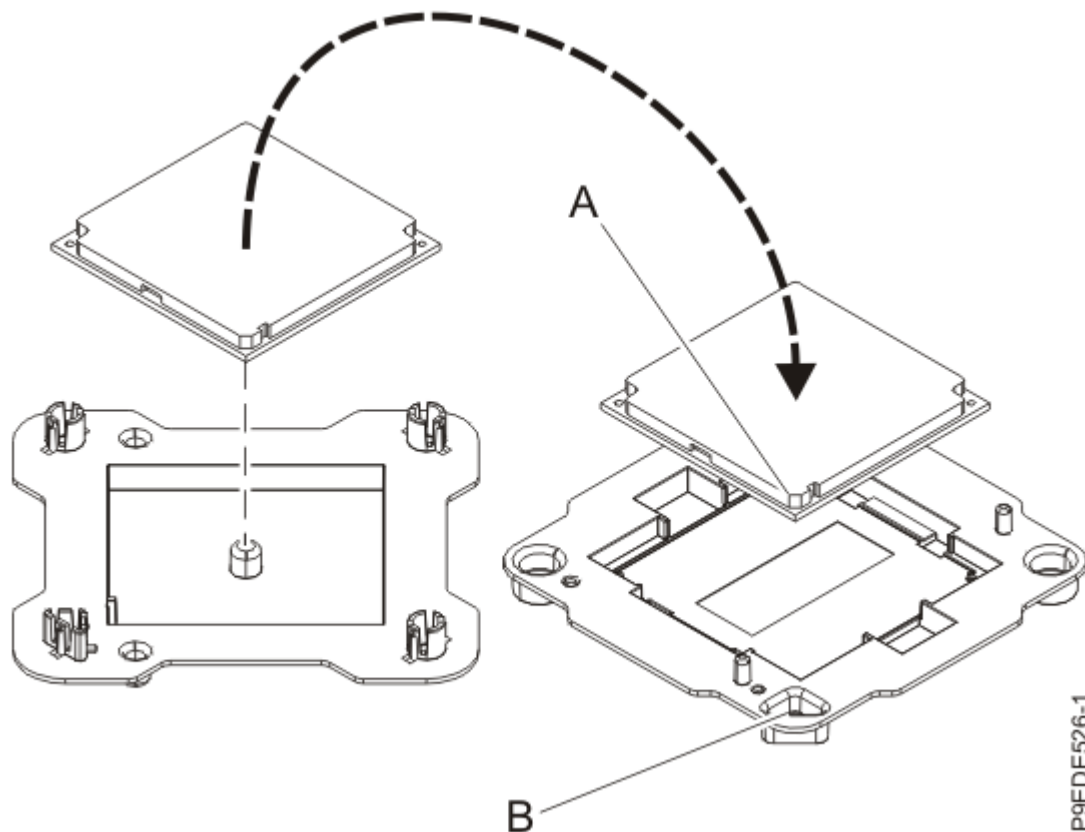

Figure 158. Placing the system processor module into the packaging
12. Lightly grip the system processor module that you replaced by the edges and lift it off the packaging cover. Align the beveled corner of the module **(A)** to the corner of the packaging with triangle **(B)** and place it in the packaging, as shown in Figure 158 on page 172. Close the packaging cover.